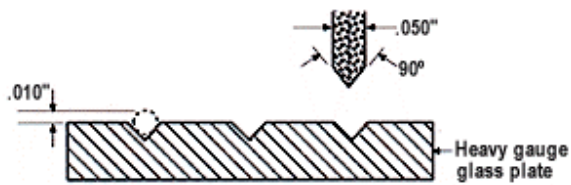

Figure 36
- A heavy gauge glass plate was used as a holder and a number of V-grooves were diced into the glass plate with a Micro-Swiss .050" thick resinoid blade ground to a 90° V shape. The depth of the V-groove was calculated so when mounting the fibers in the V-grooves the top of the fibers are about .010" above the plate surface (figure 36).